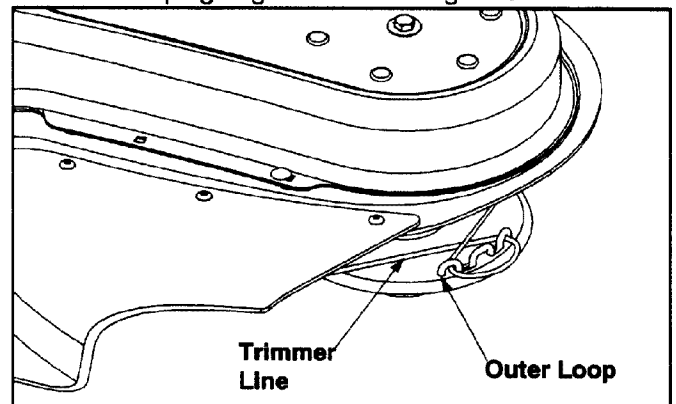

Figure 8
- Thread the ends of new trimmer line through the outer loops going inward. See Figure 8.